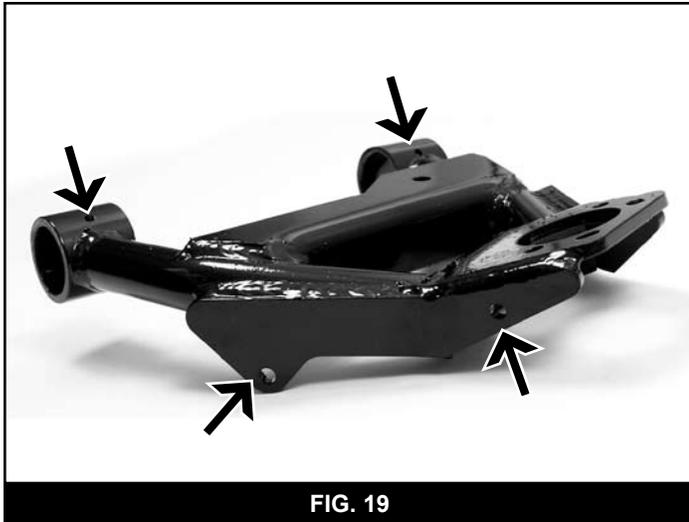

FIG. 19
43. Install the provided 1/4" grease zerks from bolt pack #515 in the two thread holes located on the top side of the control arm pivots (Fig. 19).
54. Attach the ABS wire bracket to the new control arm in the hole nearest to the ball joint using a 1/4" x 1" bolt, nut and SAE washers from bolt pack #515 (Fig. 19).
55. Attach the brake line bracket to the hole provided in the control arm using the OE bolt and nut (Fig. 19).